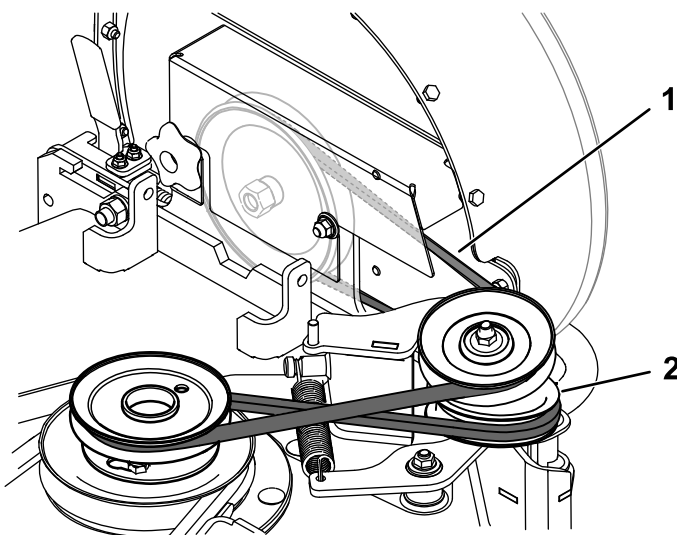

Figure 26
6. Pull back on the spring-loaded idler pulley to relieve the belt tension (Figure 26).